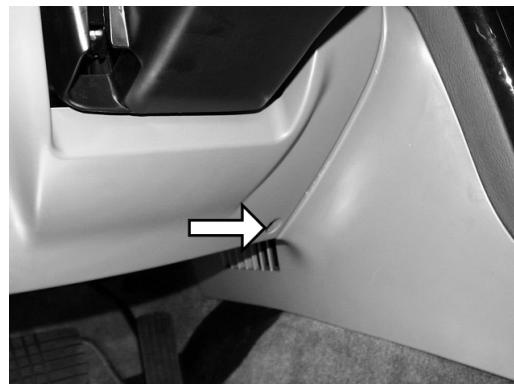
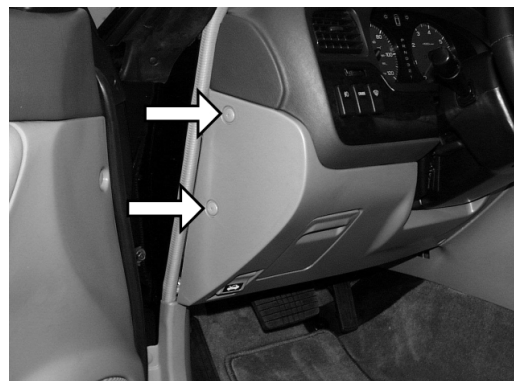

Figure 1
Figure 2
1. Remove the screw indicated by the arrow in Figure 1 and disengage the two plastic screws indicated by arrows in Figure 2, then remove the dash panel.